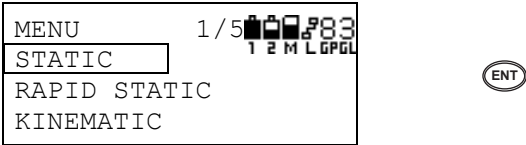

Figure 3-21. Static Observation Menu Selection
2. Confirm that STATIC observation is selected, then press the **ENT** key (Figure 3-21). If observation is currently under way, a confirmation message will appear, then press **F2** (YES).
2. Press the **up/down cursor key** to select Rapid Static, then press the **ENT** key (Figure 3-21). If observation is currently under way, a confirmation message will appear, then press **F2** (YES).